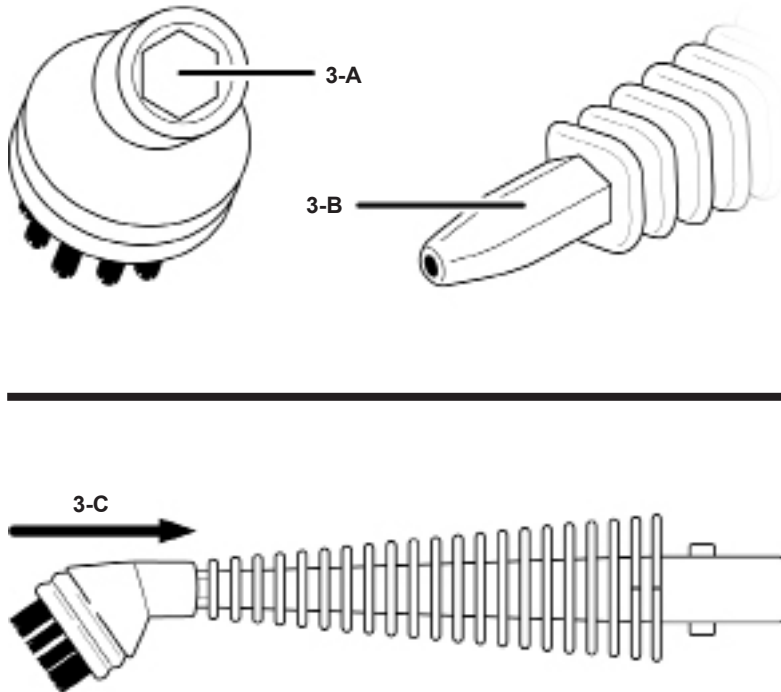

FIGURE 3
1. Begin by aligning hexagonal-shaped hole on back of Utility Brush (FIGURE 3-A) with hexagonal tip of Jet Nozzle (FIGURE 3-B).
2. Firmly press Utility Brush onto tip of Jet Nozzle (FIGURE 3-C).